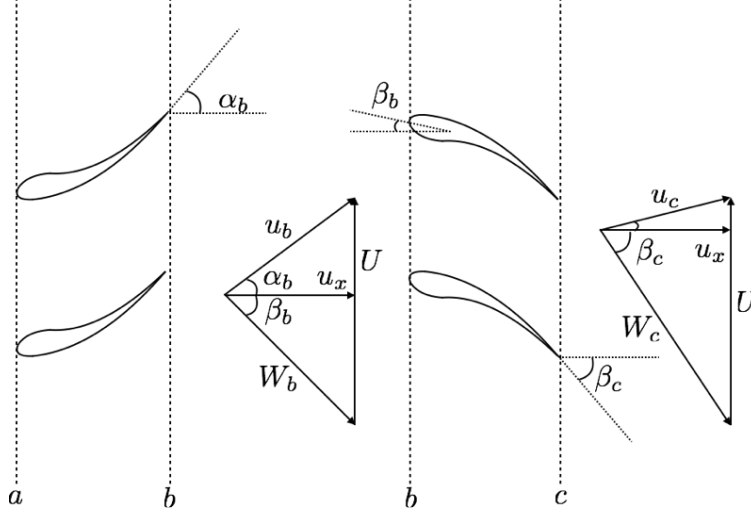

Figure 1: Turbine stage stator-rotor combination and velocity triangles.
a)[3 pts] The velocity triangles are shown in Figure 1.